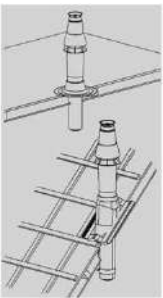

Figure 4.19 Positioning of roof terminal
5. Place the weather collar into position. See figure 4.19.
Do not turn cap. See figure 4.19.
7. Assure that the flue terminal is plumb using a level or similar device. See figure 4.19.
8. Fix the wall clamp (supplied) around the flue terminal. Do not tighten the clamp. See figure 4.19.